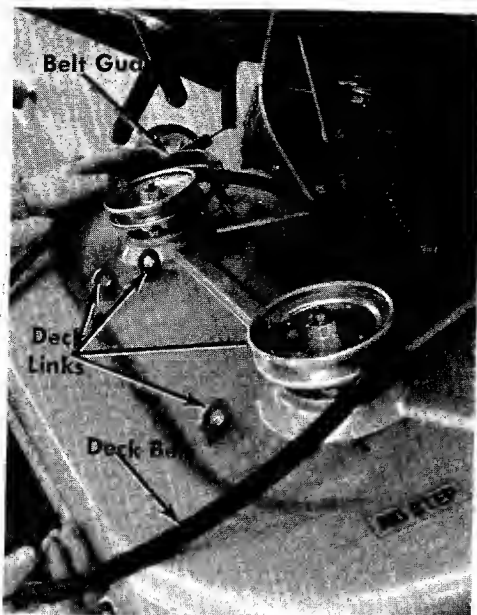

FIGURE 30. DECK LINKS
- Step 6. Remove the front four deck links from the cutting deck. See figure 30.
- Step 7. Remove the belt guards from both deck pulleys. See figure 30.
- Step 7. Tip the deck down as shown in figure 30.
- Step 9. **Removing the transmission belt.** See figure 30.
- b. Remove the transmission pulley by removing the hex nut and washer. See figure 30.